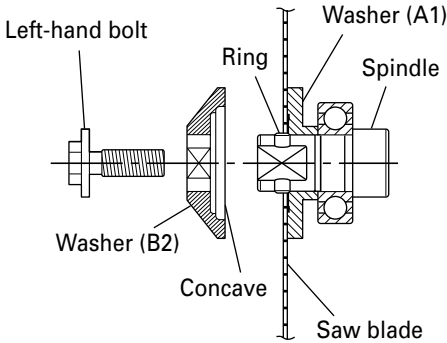

Fig. 18
2. Mounting the Saw Blade (Fig. 18)